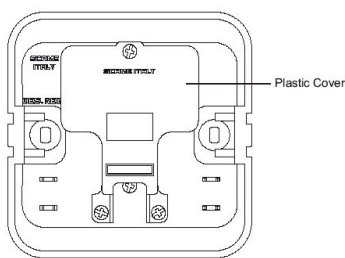

Fig. 1
- Remove the screws of the plastic cover and unmount the plastic cover of the Telephone outlet shown in Fig 1.